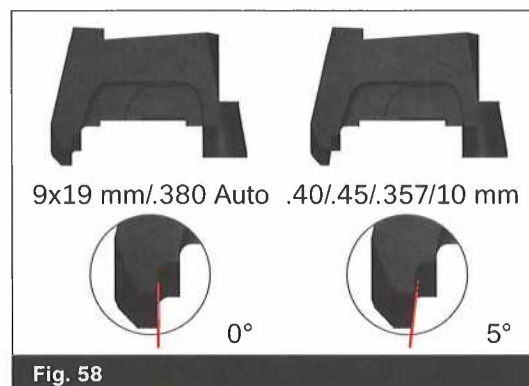

Fig. 58
- Be sure to match the extractor by caliber. (Fig. 58)